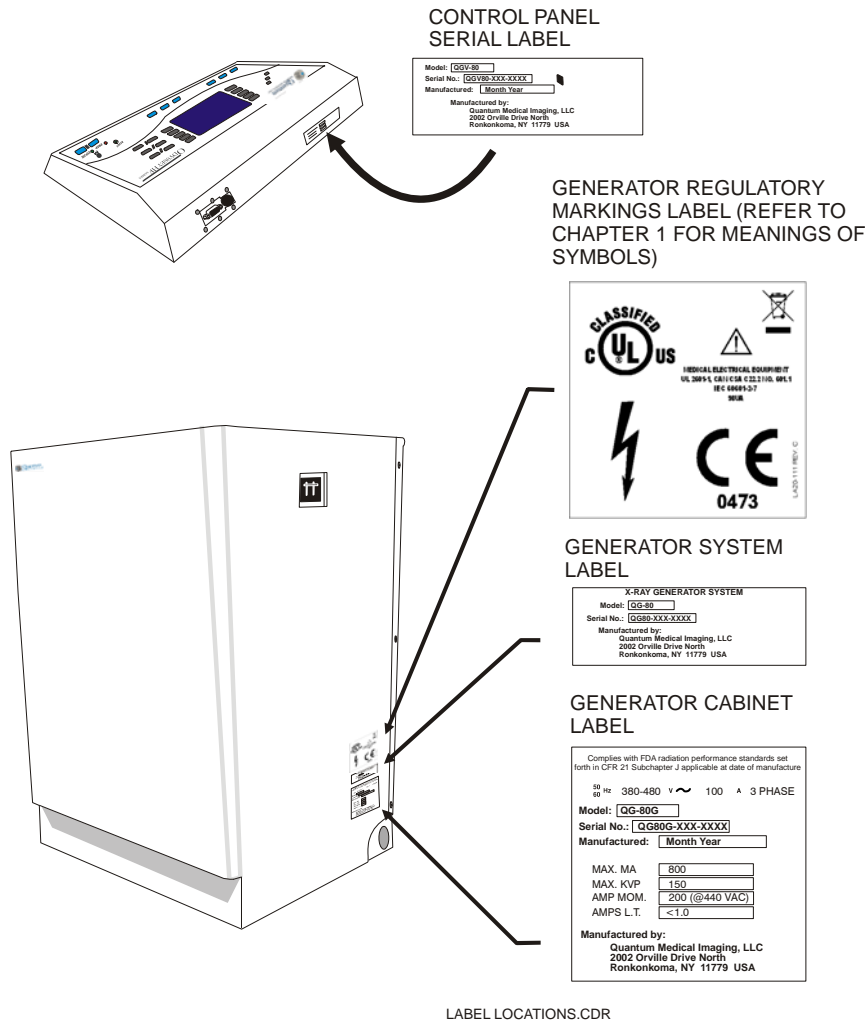

Figure 2-2. Generator - Label Locations
2. Locate the main circuit breaker on the generator cabinet (see Figure 2-2) and set to the OFF position. System is now shut down.